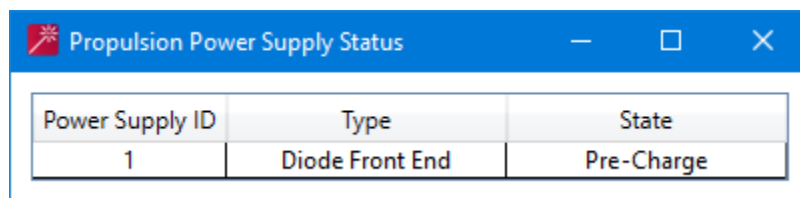

Figure 2-27: Propulsion Power Supply Status Window
*The **Propulsion Power Supply Status** window is displayed as shown in Figure 2-27 (see Propulsion Power Supply Status Window on page 166 for detailed descriptions of all fields).*